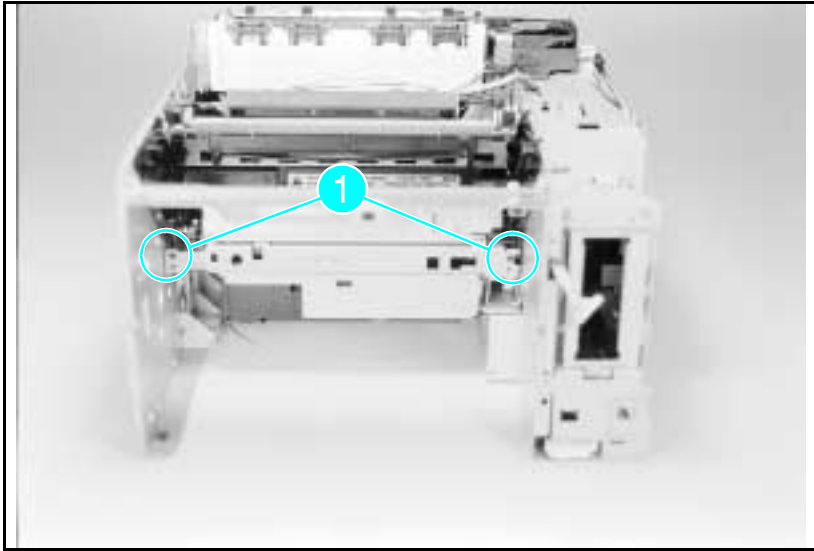

Figure 6-54 Cross Member Screws
- 4** From the front of the printer, remove the (2) black self-tapping screws that hold the Inner Cross-member. Remove the cross-member (see Figure 6-54 callout 1).